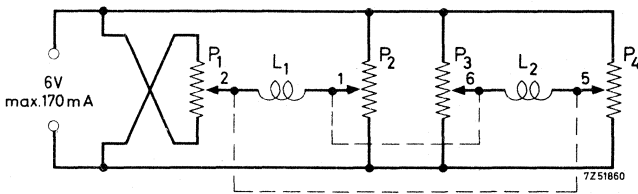

Fig. 1
- b. With the tube fully scanned in the vertical direction, the image has to be shifted so that the graticule is fully covered. With the circuit according to fig.1 this is done by means of the ganged potentiometers P_1 and P_4 .